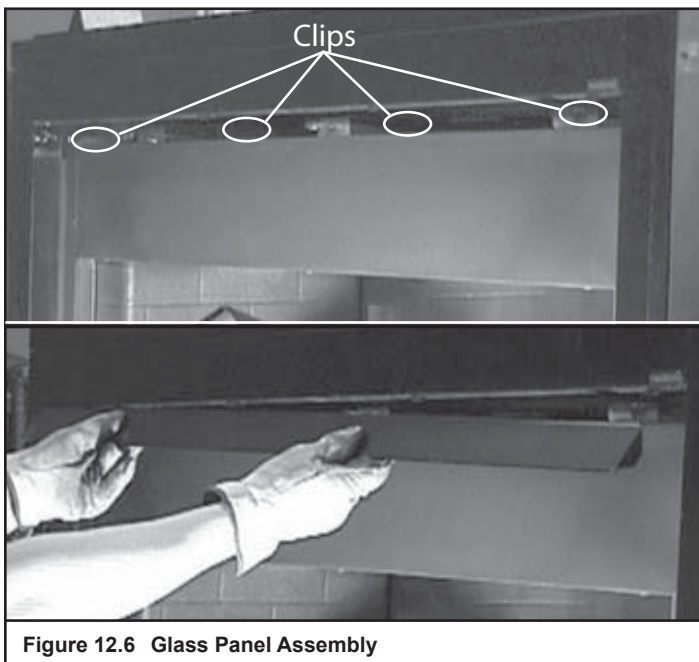

Figure 12.6 Glass Panel Assembly
- Locate the four tabs just inside the upper section of appliance. Position hood and slide into position. See Figure 12.6